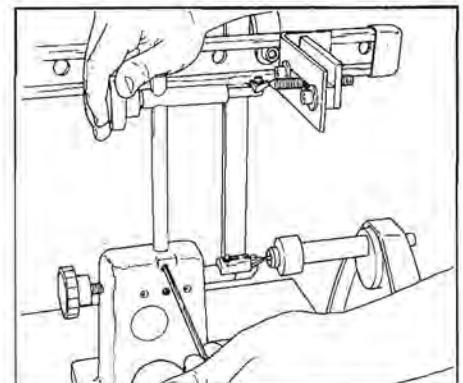

Figure 8. Align the follower with the cutter.
**1. Align the follower with the cutter.** (See Figure 8.) Position the carbide